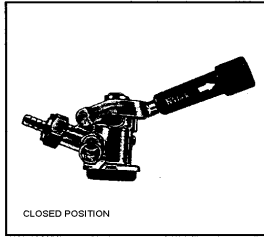

Fig. 7
- Insert the keg coupler provided into the locking neck of the beer keg and turn it clockwise to lock into position, making sure the keg coupler is in the closed position. (See Figure 7)